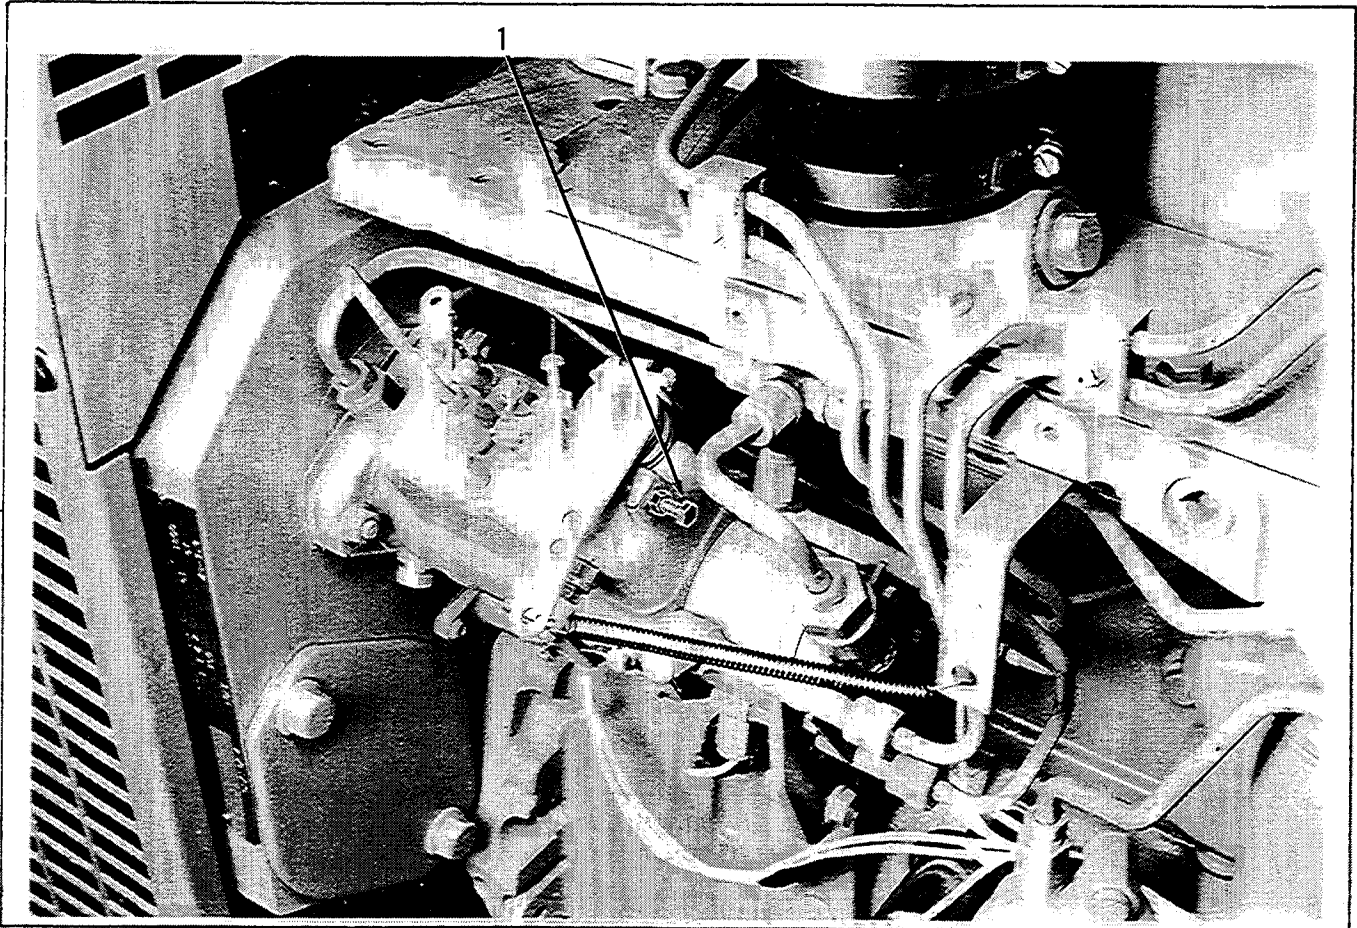

Figure A-3. Fuel Pump High Speed Screw
2. Loosen the fuel pump high speed screw locknut to make the adjustments. See Figure A-3.